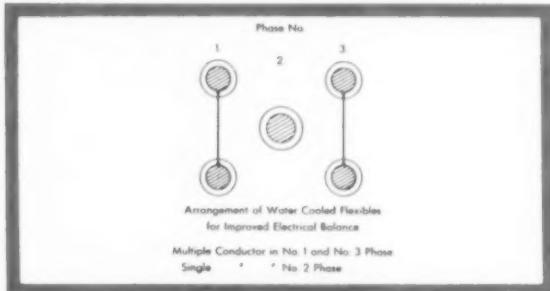

FIGURE 5
- Water cooled cables can be arranged as shown in **Figure 5**. The outer phases carry the current in two or more parallel small water cooled cables, whereas, the center phase has only one heavy water cooled cable.